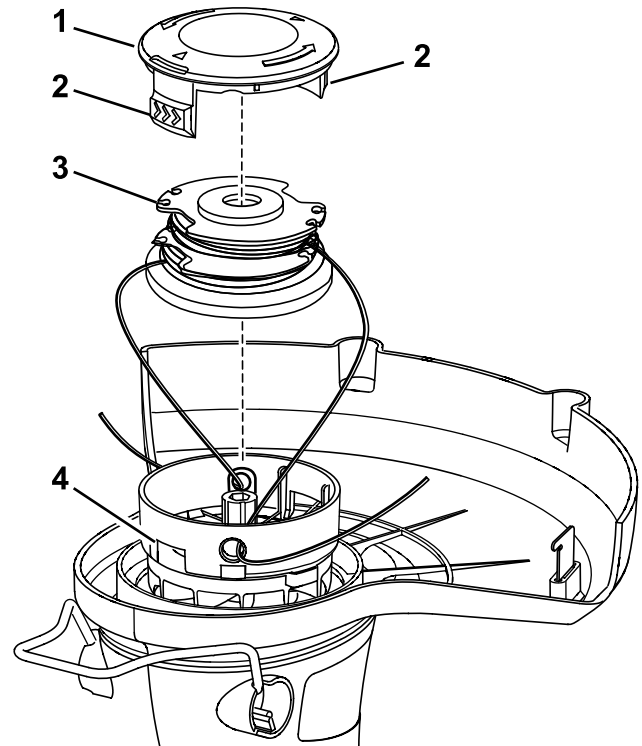

Figure 11
1. Push in the tabs on the side of the spool retainer (Figure 11).